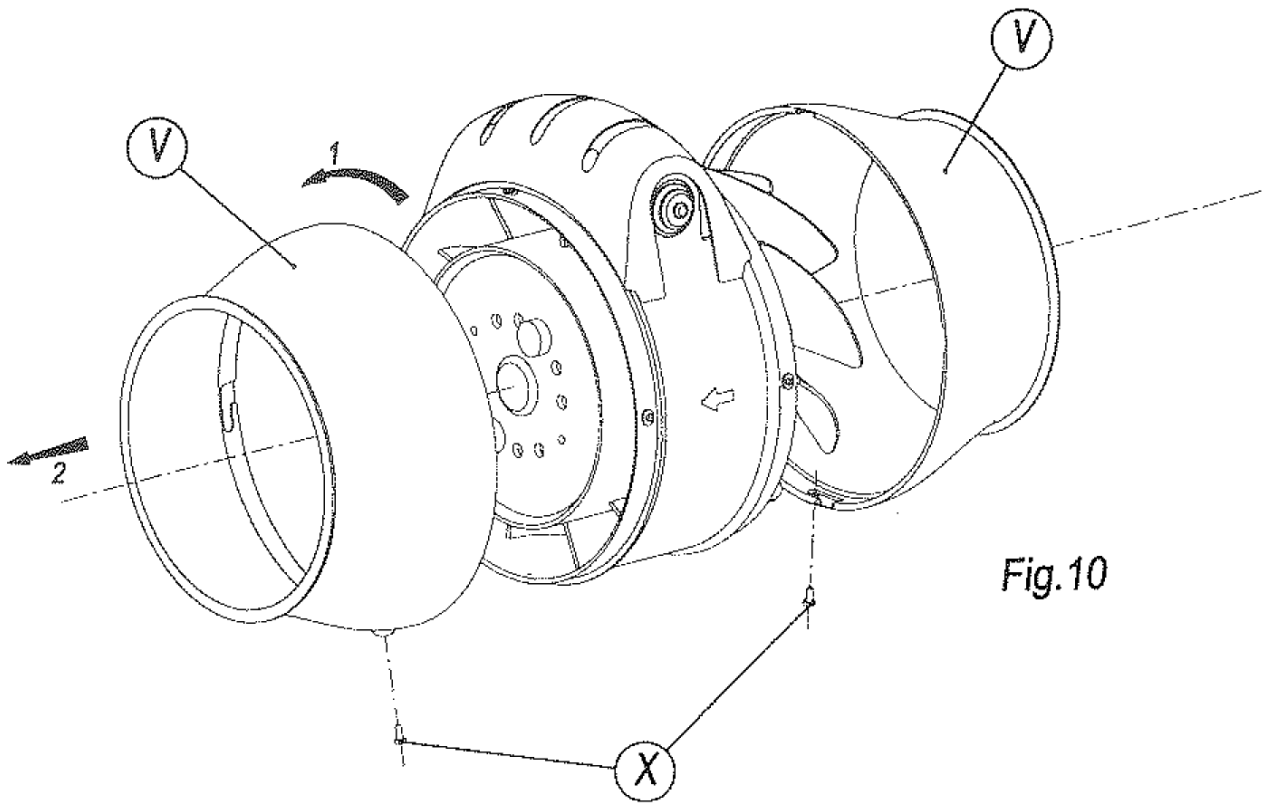

Fig.10
- If you wish the appliance to work only at high speed (HV), see the connection sketch in fig. 10.
Then the two reducer tubes (V) must be removed following the steps set out below (see fig. 10):
- 1- Loosen the screw (X).
- 2- Turn the reducer tube (V) about 9° anticlockwise (arrow 1).
- 3- Pull the reducer tube (V) out (arrow 2).